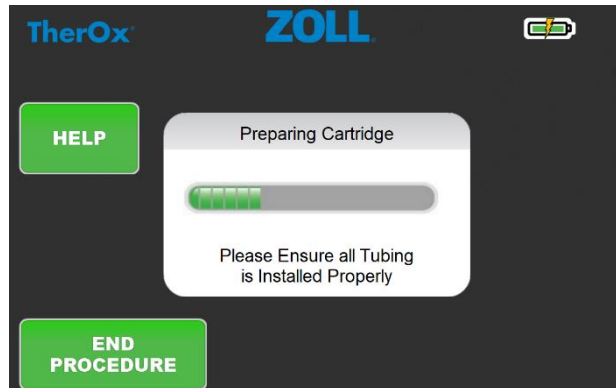

Figure 11. Prep Screen
9. Press the button identified as 'PREP' on the display to continue to the next screen and begin the cartridge prepping process. Once the 'PREP' button is pressed the screen shown in **Figure 11** appears: